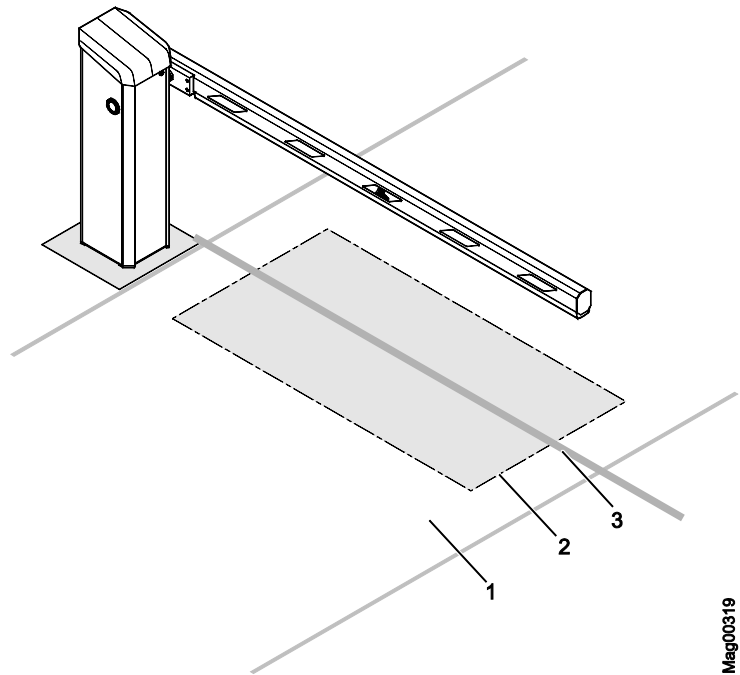

Fig. 19: Arrangement example of an induction loop for passenger car operation
- The clearance of the safety loop for passenger cars in front of, and behind the barrier arm must be at least 500 mm. The safety loop for trucks must be dimensioned larger. → Refer also to page 59, Fig. 19.